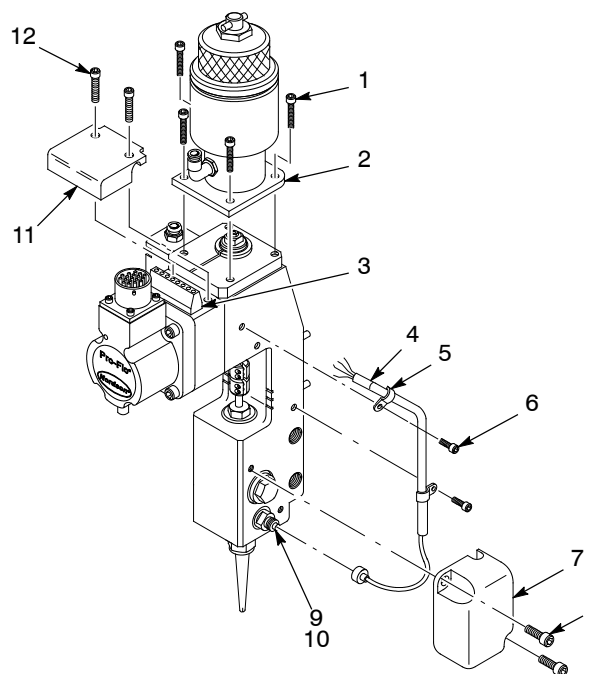
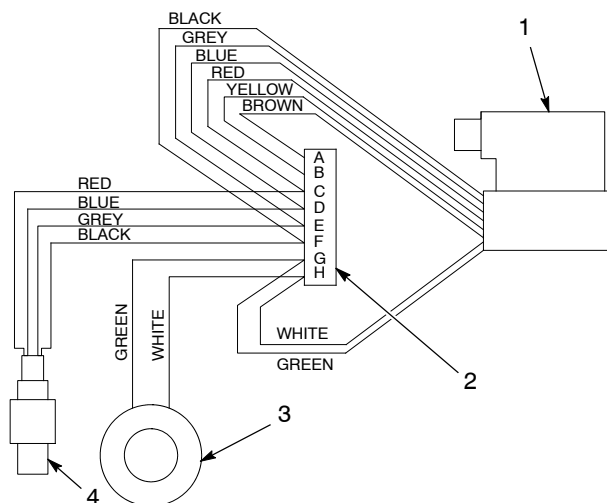

Figure 9 Replacing the Cordset
Figure 10 Cordset Wiring
2. See Figure 9. Remove the screws (1) and remove the spring closure assembly (2).
3. Remove the screws (12) and the actuator leads cover (11).
4. Loosen the terminal block (3) set screws that secure the four colored wires from the cordset (4). See Figure 10 for the cordset wiring diagram.
5. See Figure 9. Remove the cordset wires from the terminal block.
6. Remove the screws (8) and remove the pressure transducer cover (7).
7. Unplug the cordset from the pressure transducer (9).
8. Remove the screws (6) and remove the cordset clamps (5).
9. See Figure 10. Install the wires of the new cordset in the proper terminal block slots and tighten the screws.